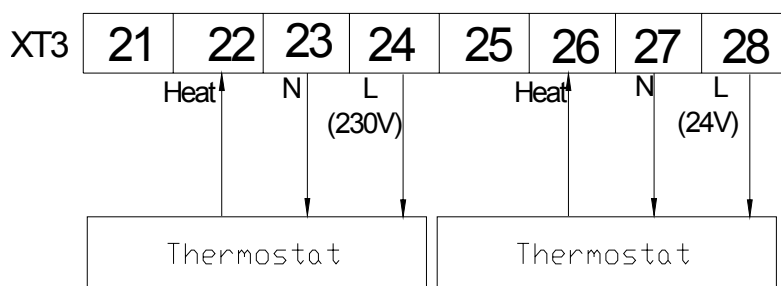

Fig.2
- v. If it is Heating only thermostat , please connect wire as Fig 2 ;